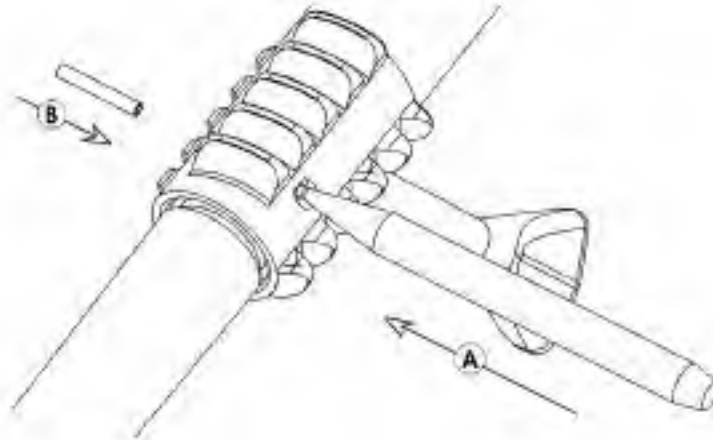

Figure 18.
4. Looking through the bolt's ejector pin hole, confirm that the ejector's pin slot is oriented so that the ejector pin hole is clear. While depressing the ejector with a cartridge case, insert a punch through one side of the ejector pin hole leaving room for the ejector pin to be started from the opposite side. (Figure 18, step A.) The punch holds the ejector in place until the ejector pin has been started from the opposite side. (Figure 18, step B.) With a 3/32 punch, finish driving the ejector pin until it is flush with the bolt's ejector pin recess.